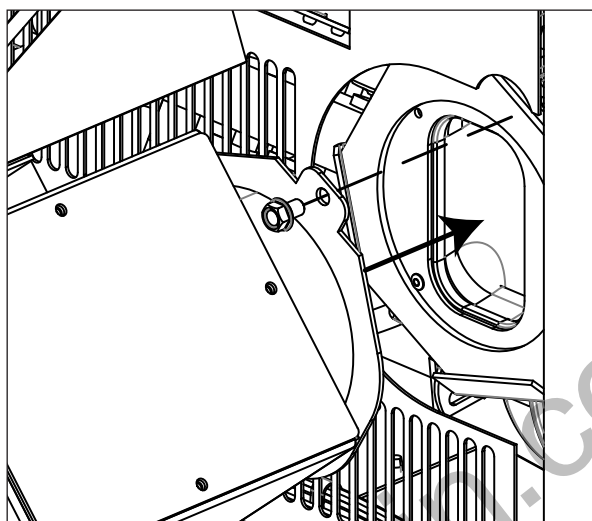

Figure 6: Exhaust Starter Attachment
2. Place the exhaust adapter into the same space that the exhaust starter was just removed (see Figure 6). Make sure the exhaust flange is securely placed within the two tabs and attach using the bolt removed in the previous step.